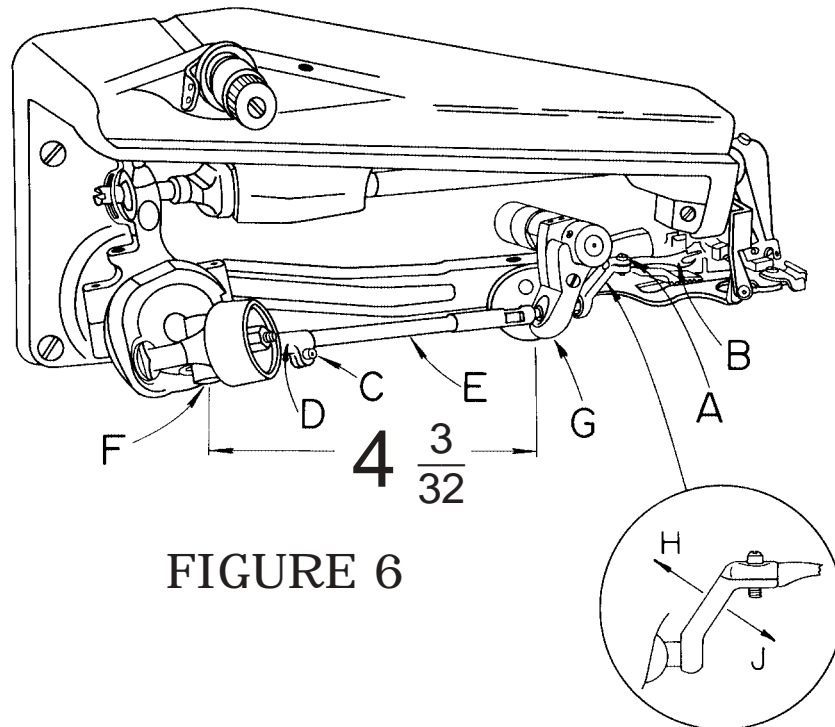

FIGURE 6
1. Should it become necessary to replace the looper (*item "B" in Figure 6*), loosen the looper clamp screw (*item "A" in Figure 6*) and remove the old looper. Because of the precise fit of the looper in the looper rod it may be necessary to exert a moderate amount of force to pull the looper out. Insert the new looper into the end of the rod as far as it will go before bottoming on the looper shoulder.
3. To adjust the looper so that the timing checks out as noted in paragraph 2, it may be rotated within its clamp by a limited amount. This adjustment should be made with the looper clamp screw (**item "A" in Figure 6**) loosened, and the looper bottomed against its shoulder. Do not move the looper in or out, and do not attempt to force the looper to turn beyond the limited amount of travel available.
4. If the adjustment described in paragraph 3 is insufficient to provide the correct timing, it will be necessary to turn the looper rod (**item "E" in Figure 6**) itself. This may be accomplished by loosening with looper rod clamp screw (**item "C" in Figure 6**). The rod is then free to turn in the looper rod fork (**item "D" in Figure 6**). It will normally be necessary to make only a very small adjustment in order to get the looper into the correct rotational position for proper timing. If, for any reason, the rod has been removed or the basic setting of the looper rod has been disturbed by a large amount, it may be reset by noting that the distance from the center of the looper rod fork pin (**item "F" in Figure 6**) to the rear face of the looper rod ball (**item "G" in Figure 6**) is normally $4 \text{ } \& \text{ } 3/32$ inches (104mm) (**refer to Figure 6**). If the rod is set to this dimension then only minor adjustment will be required to bring the looper into the correct timing position. Note that this dimension is merely a guide to assist in setting a rod and variations may be expected from machine to machine.
For adjustment, refer to insert illustration (**Figure 6**). To widen looper sweep, **flex or bend looper crank** in direction of arrow "H".